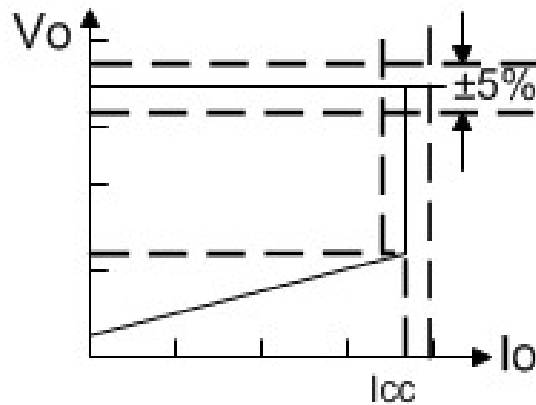

Fig.1 : Typical CC/CV curve
The SS2535 is a high performance offline PSR controller for low power AC/DC charger and adapter applications. SS2535 integrates a high voltage power MOSFET of 600V, 1A. It operates in primary-side sensing and regulation. Consequently, opto-coupler and TL 431 could be eliminated. Proprietary Constant Voltage (CV) and Constant Current (CC) control is integrated as shown in the figure.1 below.
SS2535 is designed to produce good CC/CV control characteristic as shown in the Fig.1. In charger applications, a discharged battery charging starts in the CC portion of the curve until it is nearly full charged and smoothly switches to operate in CV portion of the curve. The CC portion provides output current limiting. In CV operation, the output voltage is regulated through the primary side control. In CC operation mode, SS2535 will regulate the output current constant regardless of the output voltage drop.